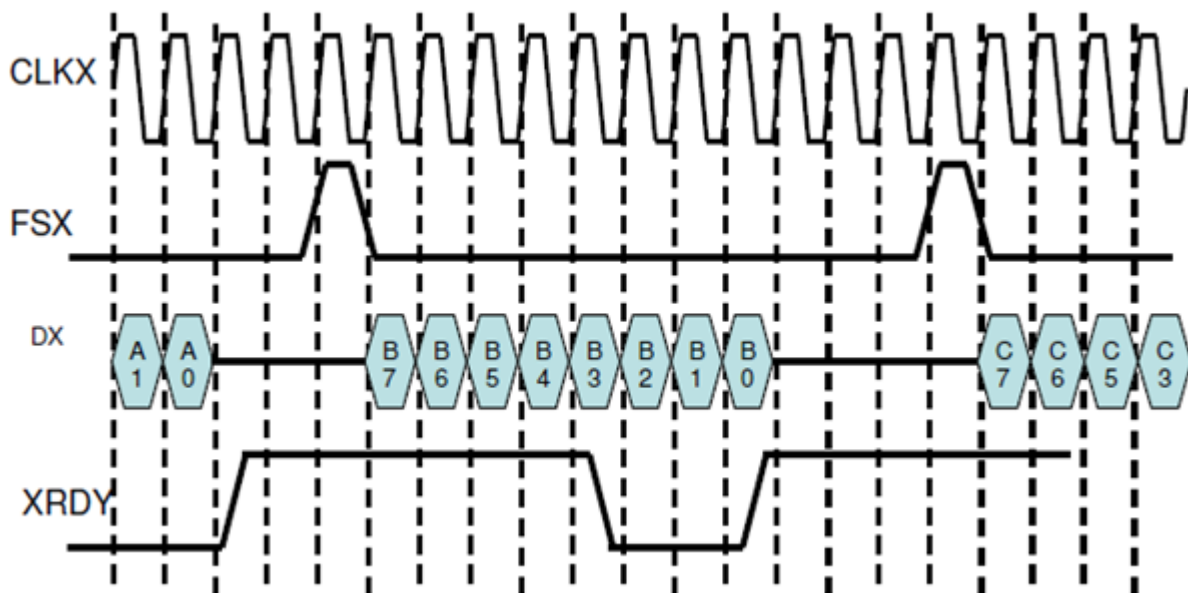

FIG: 8.3 Transmit timing for SSI
- An example of data word of 8 bits is shown in the fig. 8.2 and fig. 8.3.